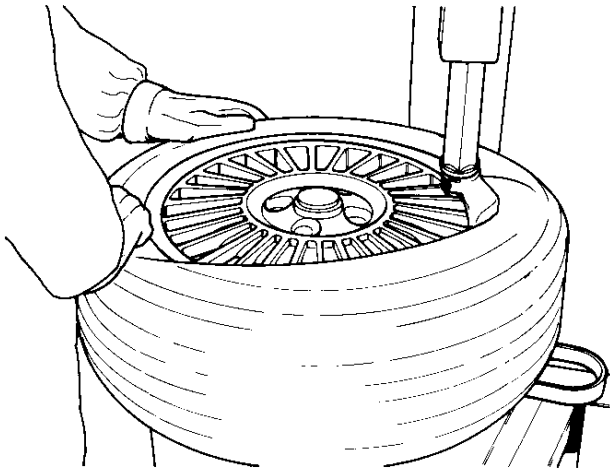

Fig. 17
G. Rotate the turntable clockwise (pedal down) and, at the same time, push down on the tire sidewall to move the bead into the drop center of the rim (Fig. 17).